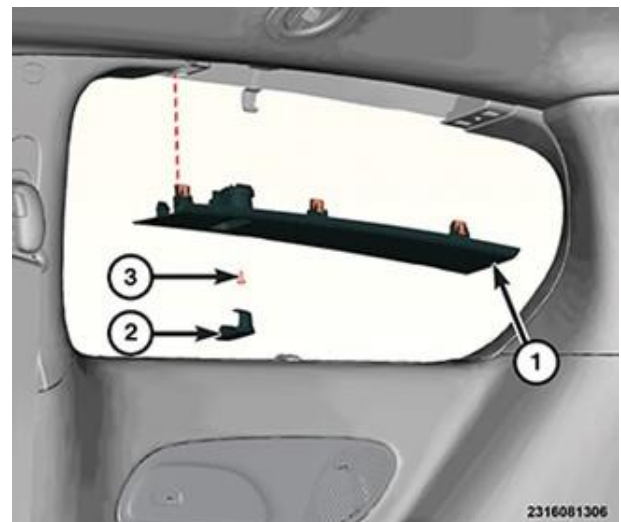

Figure 9 – C-Pillar Extension Trim
24. Using a trim stick or equivalent, remove the C-pillar extension trim panel (Figure 9).